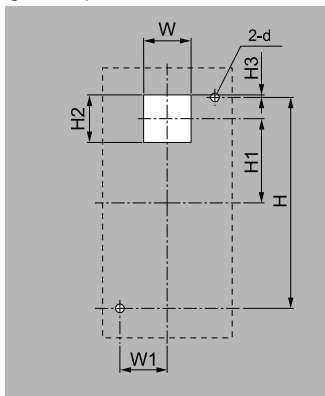

Figure 5.4 External/Face Mount Enclosure Panel Cut-Out Dimensions
1. Use the dimensions in Figure 5.4 and Table 5.2 to cut an opening and tap two holes in the enclosure panel.